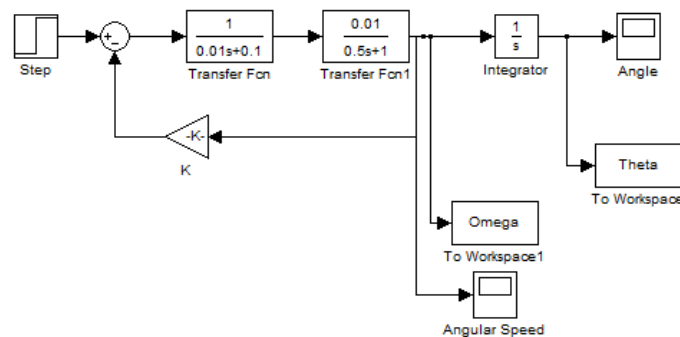

Fig. 15. Simulink model for DC motor
10. Obtain a Simulink model for the motor as in Fig. 15. Plot the step response for angle and angular velocity.